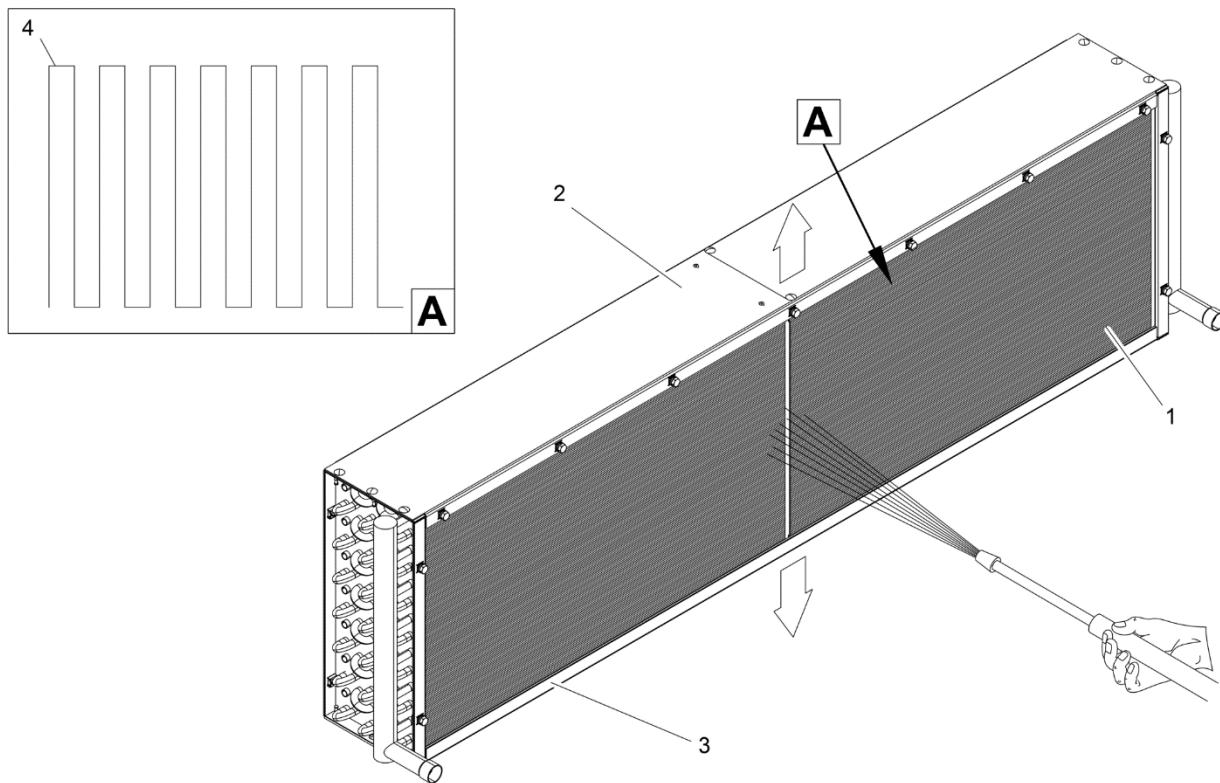

Figure 5-5: Annual Inspect and Clean Evaporator Coil
Refer to Figure 5-5.
4. Clean coil fin block (1) using compressed air. Using serpentine motion (4) as shown in Figure 5-5 force compressed air through intake side (3) of evaporator coil in return air plenum to loosen debris trapped within fin block.
7. Use fin comb on coil fin block (1) to straighten any bent fins while checking evaporator coil fin block for damage. If damage to fin block will affect evaporator coil operation, replace evaporator coil per HRMM.